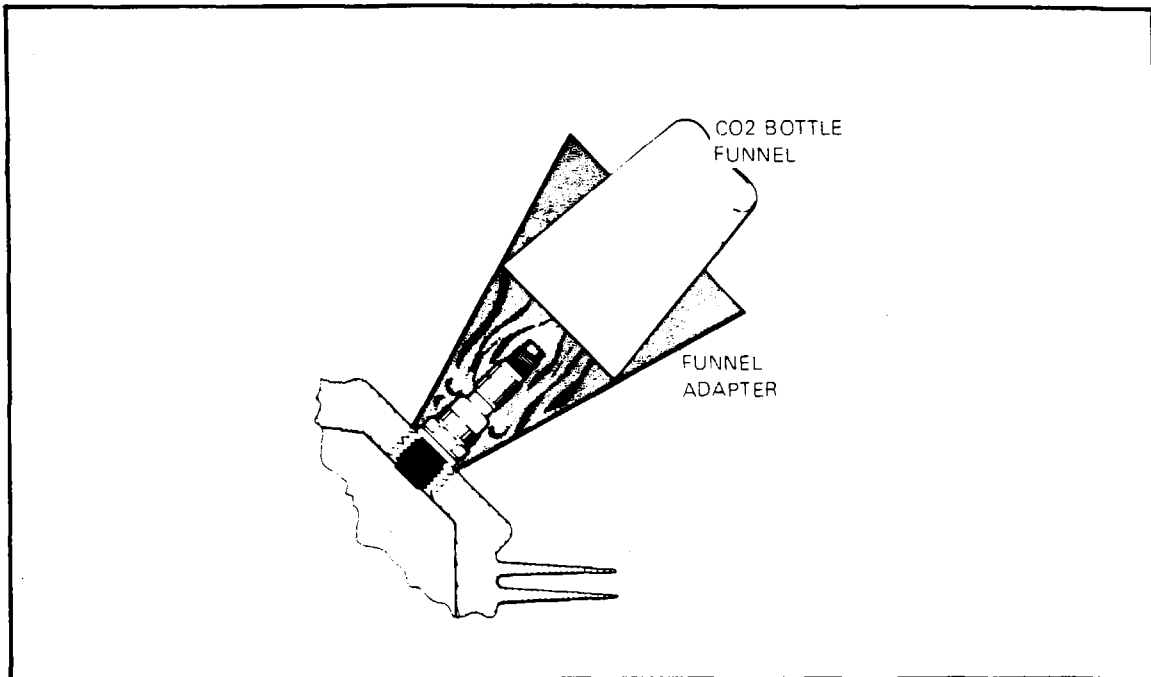

Figure 8-8. Removing Spark Plug Frozen to Bushing
**8-16. REMOVAL OF SEIZED SPARK PLUG.** Removal of seized spark plugs in the cylinder may be accomplished by application of liquid carbon dioxide by a conical metal funnel adapter with a hole in the apex just large enough to accommodate the funnel of a CO2 bottle. (Refer to Figure 8-8.) When a seized spark plug cannot be removed by normal means, the funnel adapter is placed over and around the spark plug. Place the funnel of the CO2 bottle inside the funnel adapter and release the carbon dioxide to chill and contract the spark plug. Break the spark plug loose with a wrench. A warm cylinder head at the time the carbon dioxide is applied will aid in the removal of an excessively seized plug.